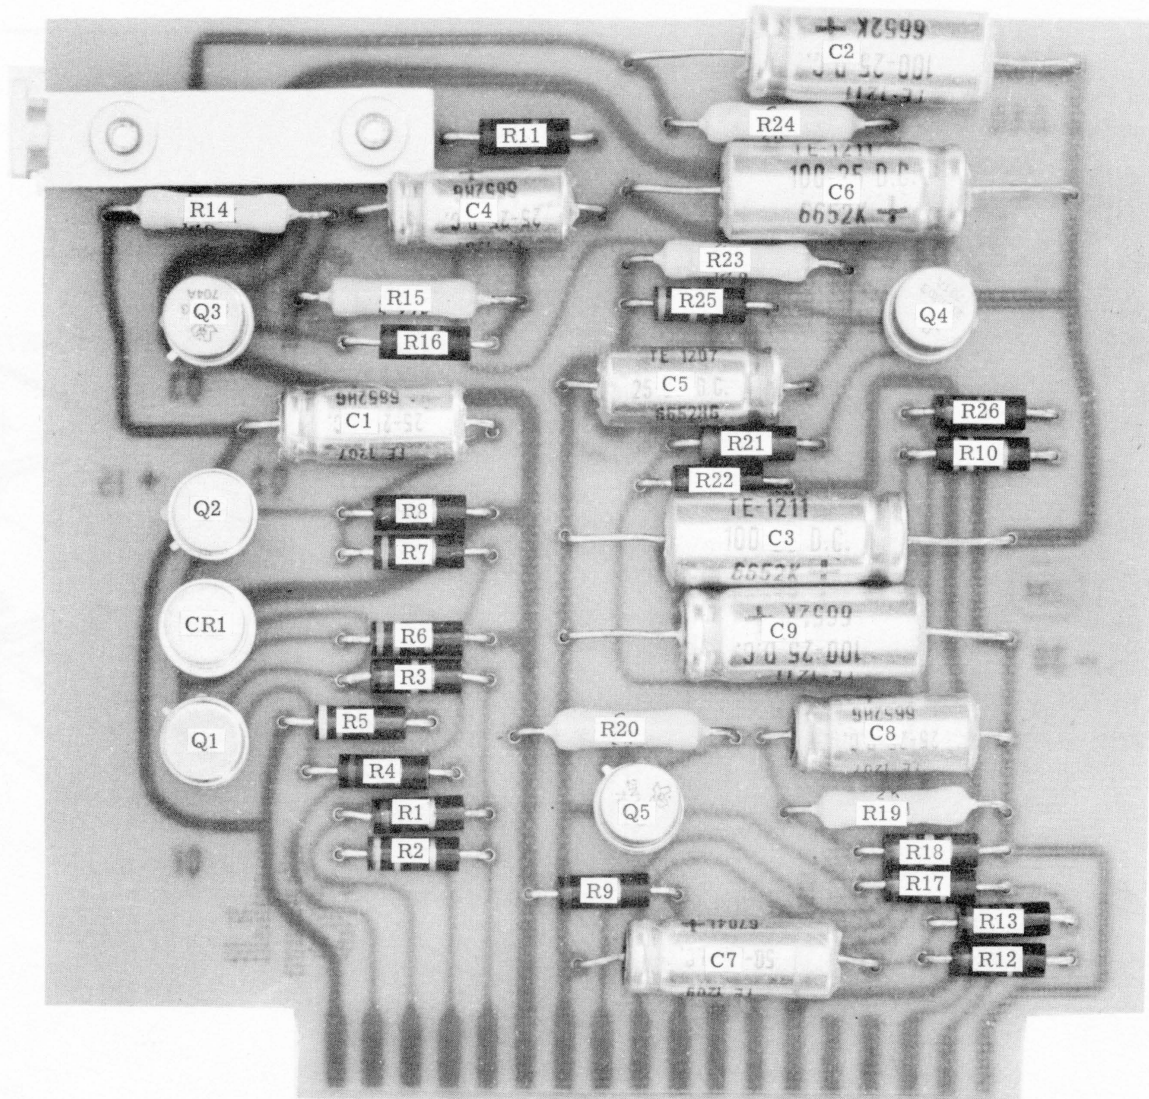

Fig. 6-2 Regulator Supply Board
13. On the Power Supply Regulator Board, replace R21 with 1.3 K, 1/2 watt resistor supplied in kit. Refer to Figure 6-2 of the Model 139B instruction manual. This completes the modification.